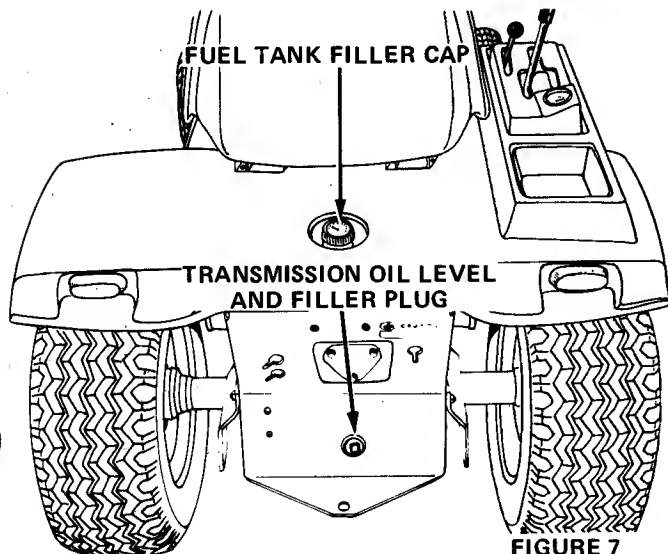

FIGURE 7
The fuel tank filler cap is located behind the seat, see Figure 7. Wipe the dust and dirt from around the cap before removing it to prevent dirt from falling into the tank while filling. Use an approved gasoline container and keep it clean.
4. Wipe dirt from around the oil level and filler plug. See Figure 7.